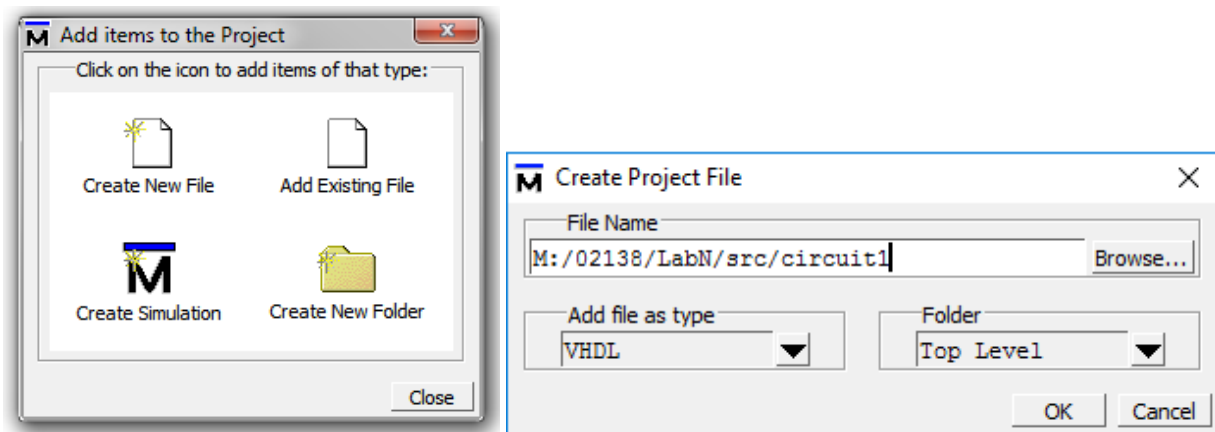

Figure 5. Add design files.
3. Choose “Create New File”, and name the file circuit1.vhd. See Figure 5. Note: On some versions of ModelSim it is required to type in the “.vhd” extension and other versions will give an error if you do.